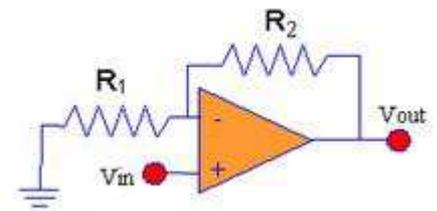

Figure 9
- 1- Construct the Op-Amp circuit as shown in the Figure 9 using **$R_1 = 1K\Omega$ and $R_2 = 2.2K\Omega$** .